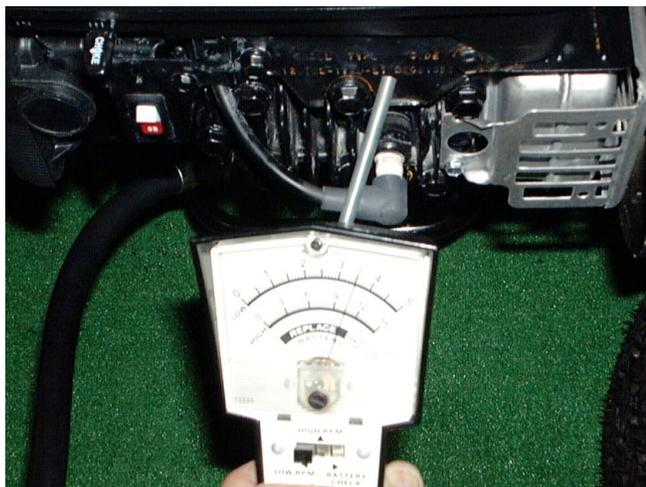

Figure 3
- Check the engine RPM with a tachometer and make certain the engine is running between 3500 and 3600 RPM. ____ See Figure 3.